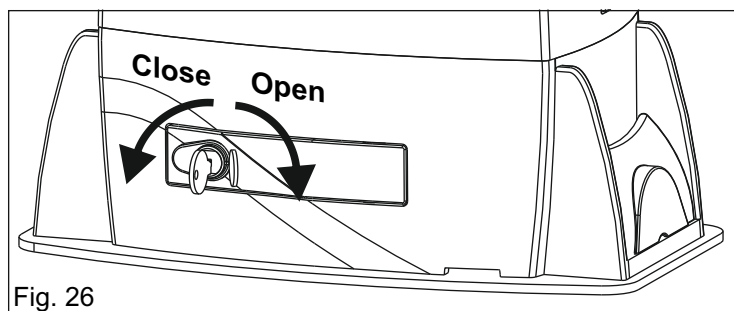

Fig. 26
- Open the lock cover, insert the key and rotate it 90° clockwise (Fig. 26)